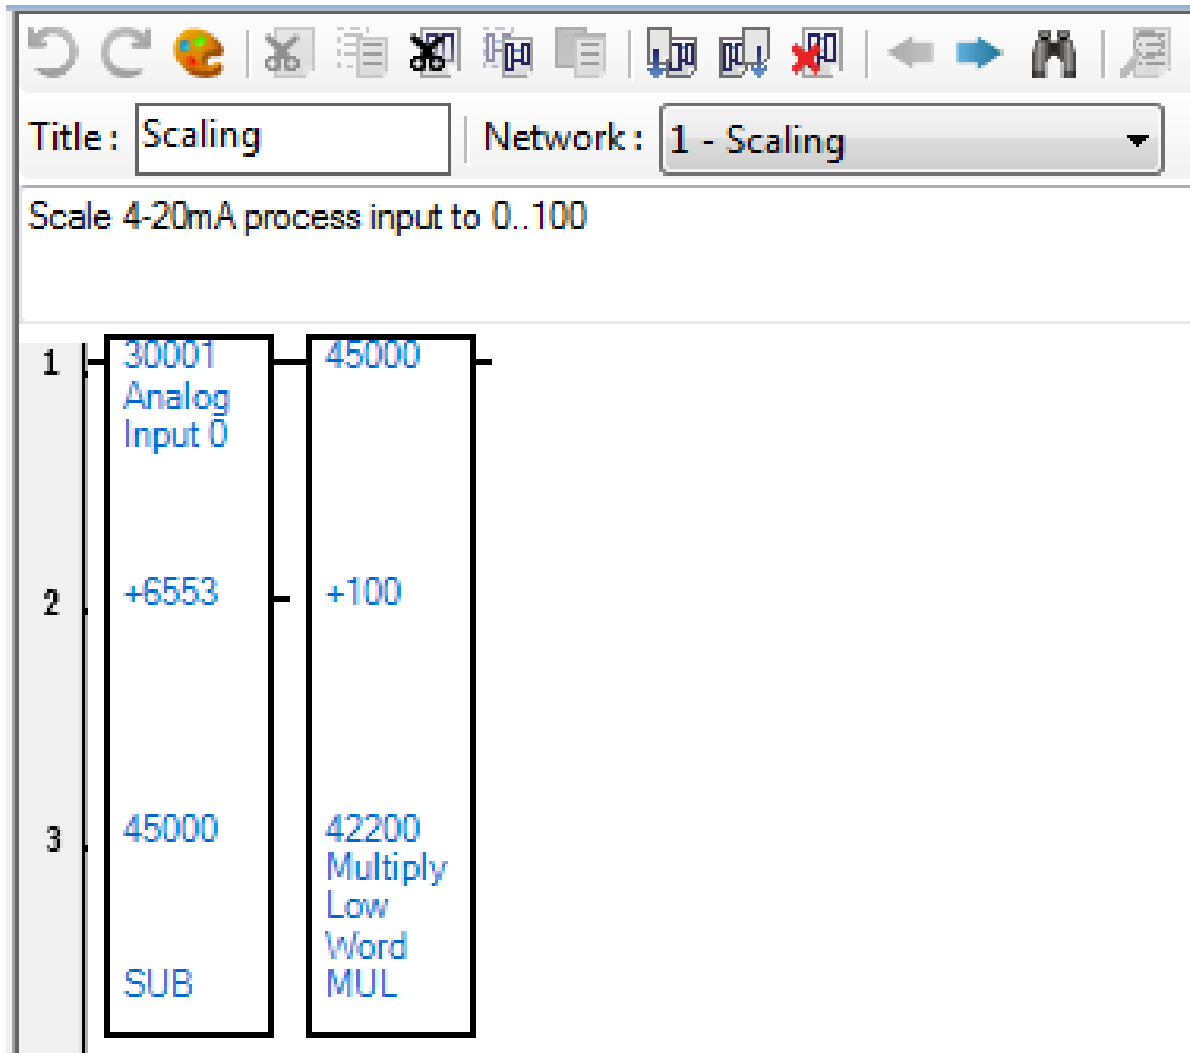

Figure 37: Insert / Edit MUL Function
- Complete the **Network Diagram** as shown in Figure 37: Insert / Edit MUL Function.